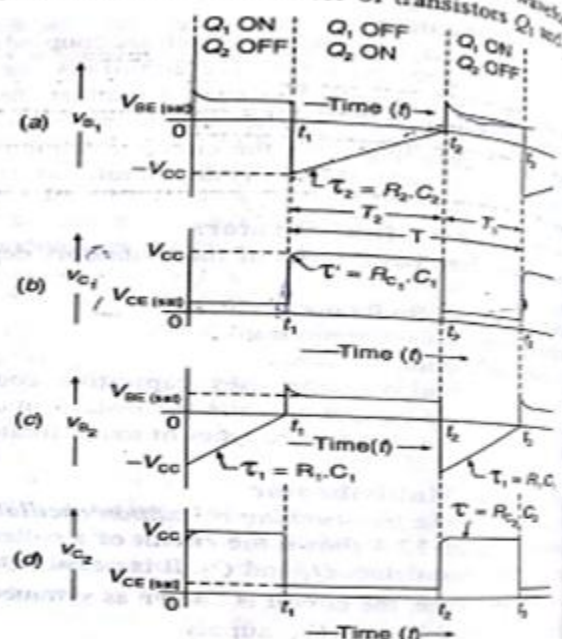

Fig. 32.5. Waveforms at the base and collector of transistors Q_1 and Q_2 in astable multivibrator.
The circuit operation of an astable multivibrator is easy to understand with the waveforms shown in Figure 32.5. These waveforms are at the base and collector of transistors Q_1 and Q_2 . Figure 32.5 (a) shows the waveform for the base voltage of transistor Q_1 (i.e., v_{B1}) and Figure 32.5 (b) for the collector voltage of transistor Q_1 (i.e., v_{C1}). Similarly Figure 32.5 (c) shows the waveform for the base voltage of transistor Q_2 (i.e., v_{B2}) and Figure 32.5 (d) for the collector voltage of transistor Q_2 (i.e., v_{C2}). The circuit operation may be explained as follows:
- It may be noted that for an astable multivibrator, using PNP transistors, the voltages and currents are negative to those for a circuit with NPN transistors. Thus all the waveforms shown in Fig. 32.5 must be inverted, if PNP transistors are used.